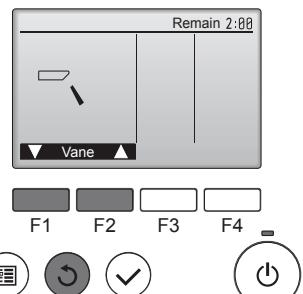

Fig. 7-7
- ① Check the auto vane with the **F1** **F2** buttons. (Fig. 7-7)
- ② Press the  button to return to "Test run operation".
- ③ Press the  button.